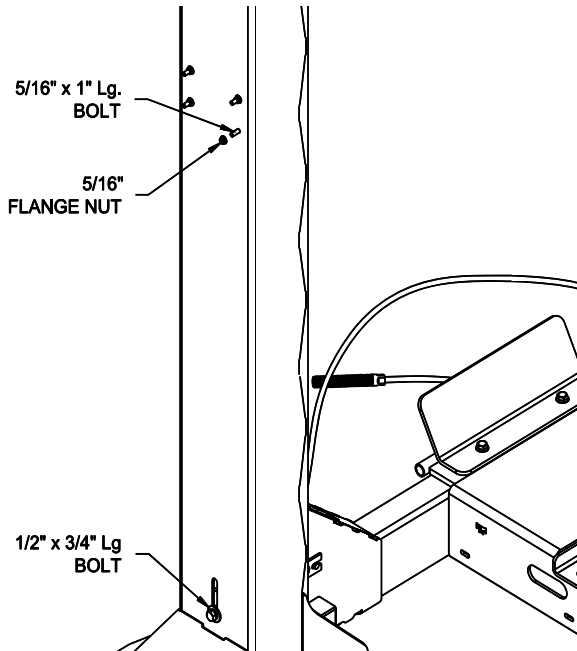

Fig 13 – Power Unit Mounting Bolts
- 26) **POWER COLUMN ONLY** – Thread the front power side locking ladder jam nut (located under the column top plate) down approximately 1/2". Remove 1/2" x 3/4" lg. lock ladder securing bolt from bottom of column and rock the ladder to one side to allow access to power unit mounting holes and insert two 5/16" x 1" flange head bolts from the inside out and secure with 5/16" flange nut, **Fig 13**. Shift ladder to opposite side and install remaining two power unit bolts. Reinstall lower ladder bolt.
- 33) Install the power unit and the air button valve assembly on the power column, **Figs 13 & 15**.